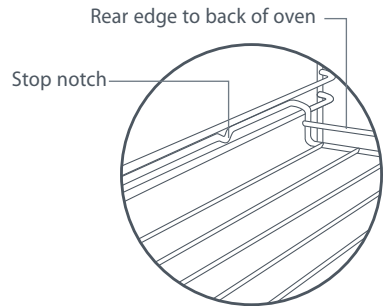

Fig. 13 Location of stop notch
- *The oven shelves and the grill/roast pan have a 'stop notch' so that you do not accidentally pull them right out of the oven. Make sure you put the stop notch towards the back of the oven, as shown in Fig.13.*